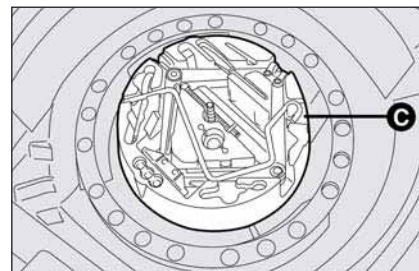

fig. 11
- ☐ Fit the jack partially open in its container **C-fig. 11** forcing it lightly to prevent it from vibrating when travelling.
- ☐ Stow the container **C-fig. 11**, complete with tools in the boot.